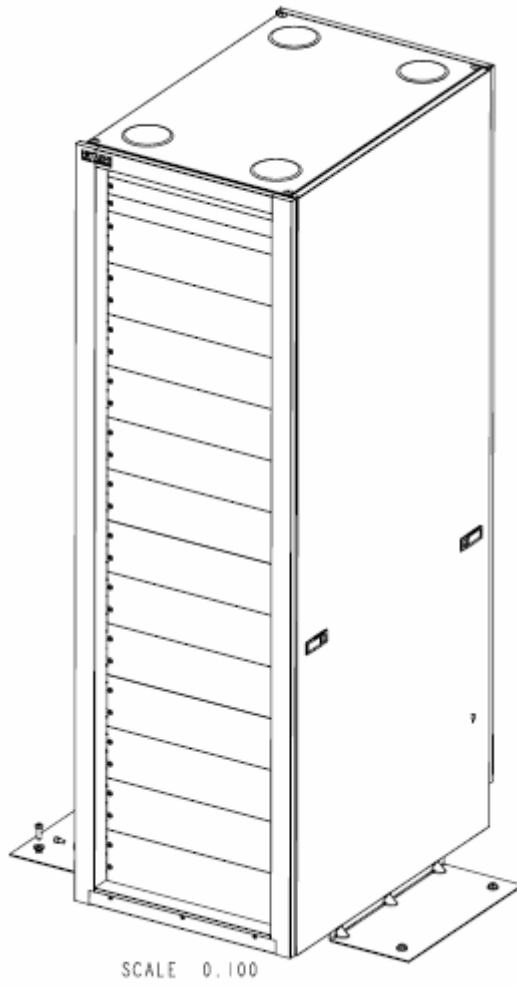

Figure 3.4 View of Global 19-inch Rack with Side Stabilizer Plates Installed
3. Using the hardware supplied, attach both plates as shown in Figure 3.4 using the included hex tool.
Figure 3.4 shows the final view after the side stabilizer plates have been installed.